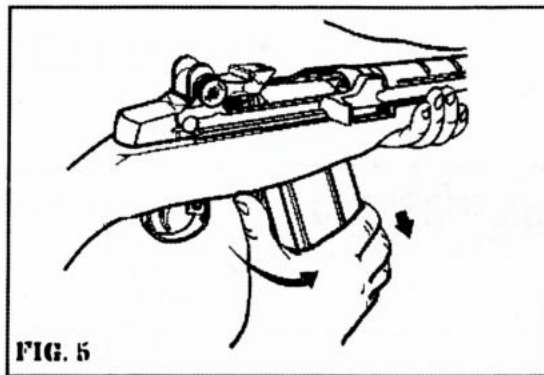

FIG. 5
1. Place the gun on safety, point it in a safe direction, and remove the magazine. Push the magazine release with your thumb and rock the magazine down and forward [see figure 5].